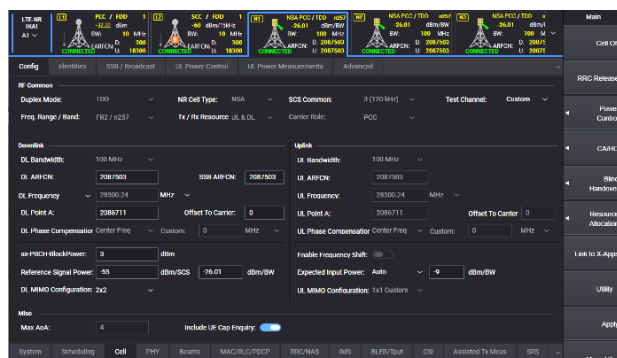
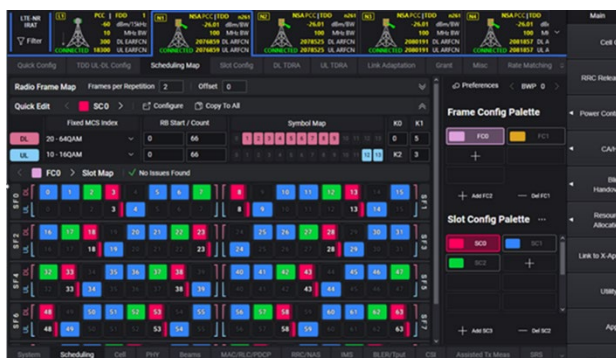

Figure 9. Power and frequency for each cell
Figure 10. Scheduling map for the selected cell
2. Configure cell settings (Figure 9 and Figure 10), switch on the cell to transmit, and switch on the device.
3. Monitor the progress of the test and modify parameters with the powerful GUI and SCPI as shown in Figure 9 and Figure 10.